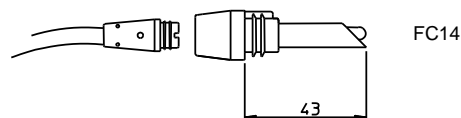
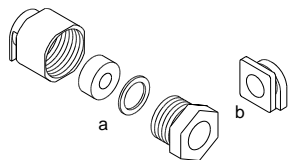

Fig. 2
Fig. 3
The accessories as connecting sockets and core hitches are supplied upon request for controller wiring. The following figures show connecting socket MOG type (Fig. 2) and core hitches (Fig. 3).
- socket MOG type code 18210121 (fig. 2);
- core hitches code 18210200 (fig. 3 a);
- core hitches code 80536550 (fig. 3 b).
- In order to maintain the IP40 protection degree the device must be connected to the MOG socket (fig. 2) with core hitches (fig. 3);